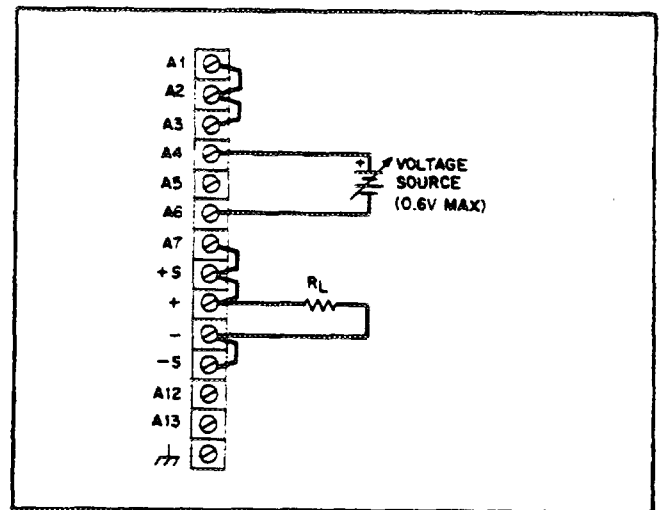

Figure 3-9. Voltage Programming of Output Current
**3-46 Constant Current Output, Voltage Control.** In this mode (Figure 3-9) the output is varied by the external voltage source at a rate established by the programming coefficient of  $50\text{mV/A} \pm 10\%$ . The external voltage required to obtain maximum rated output current from the supply is about  $500\text{mV}$ . An input greater than  $600\text{mV}$  will cause excessive power dissipation and possible damage to the supply. The load on the external voltage source will be less than  $20$  microamperes.